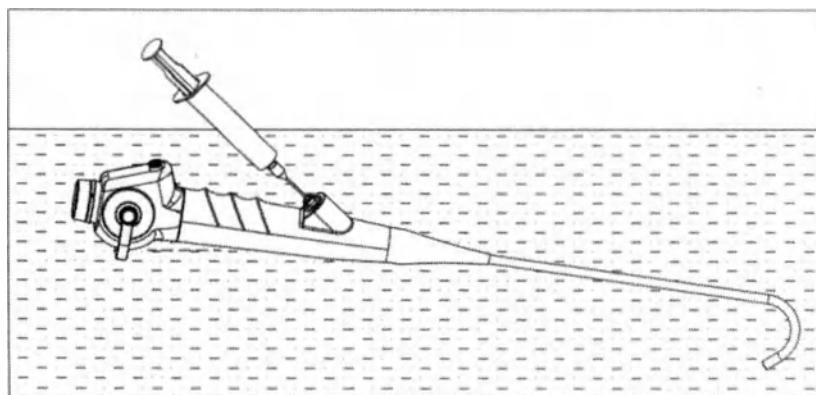

Fig 7.15
3. Pull up the push rod of the syringe and fill the working channel with detergent. (See Fig 7.15)